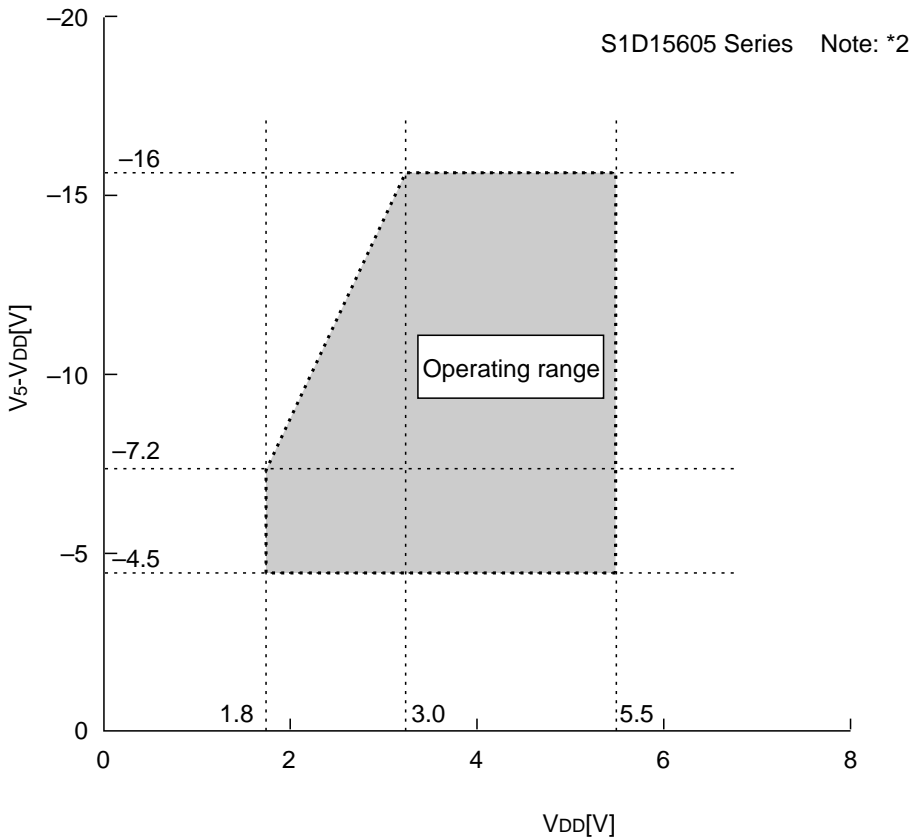

Figure 36
- *2 The operating voltage range for the VDD system and the V5 system is as shown in Figure 36. This applies when the external power supply is being used.
- *3 The A0, D0 to D5, D6 (SCL), D7 (SI), \overline{RD} (E), \overline{WR} (R/W), $\overline{CS1}$, CS2, CLS, CL, FR, M/S, C86, P/S, \overline{DOF} , \overline{RES} , IRS, and \overline{HPM} terminals.
- *5 The A0, \overline{RD} (E), \overline{WR} (R/W), $\overline{CS1}$, CS2, CLS, M/S, C86, P/S, \overline{RES} , IRS, and \overline{HPM} terminals.
- *6 Applies when the D0 to D5, D6 (SCL), D7 (SI), CL, FR, and \overline{DOF} terminals are in a high impedance state.
- *7 These are the resistance values for when a 0.1 V voltage is applied between the output terminal SEGn or COMn and the various power supply terminals (V1, V2, V3, and V4). These are specified for the operating voltage (3) range.